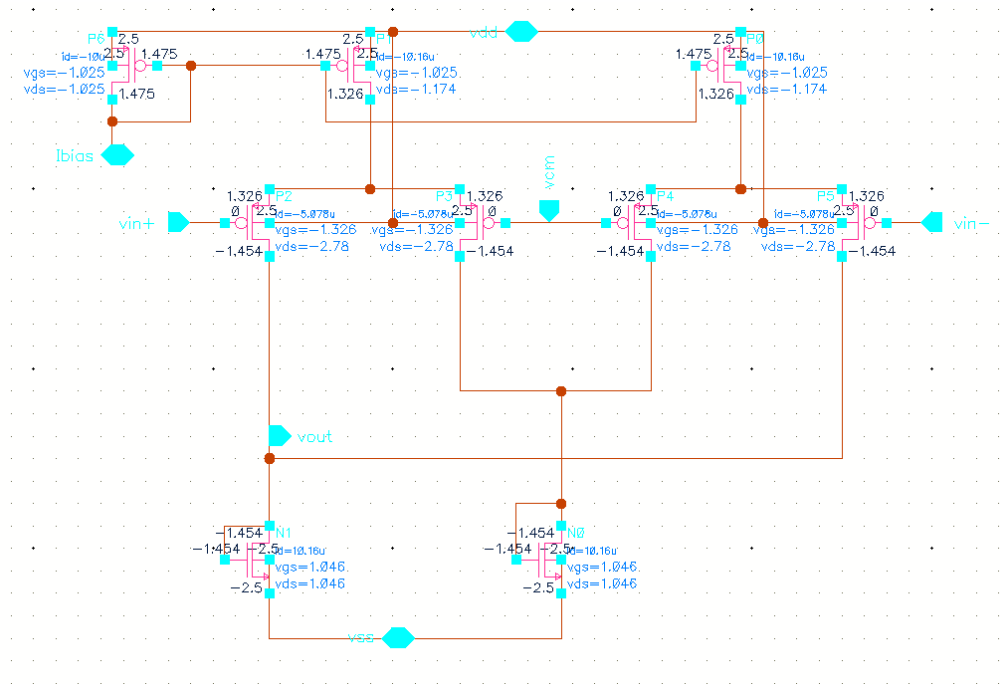
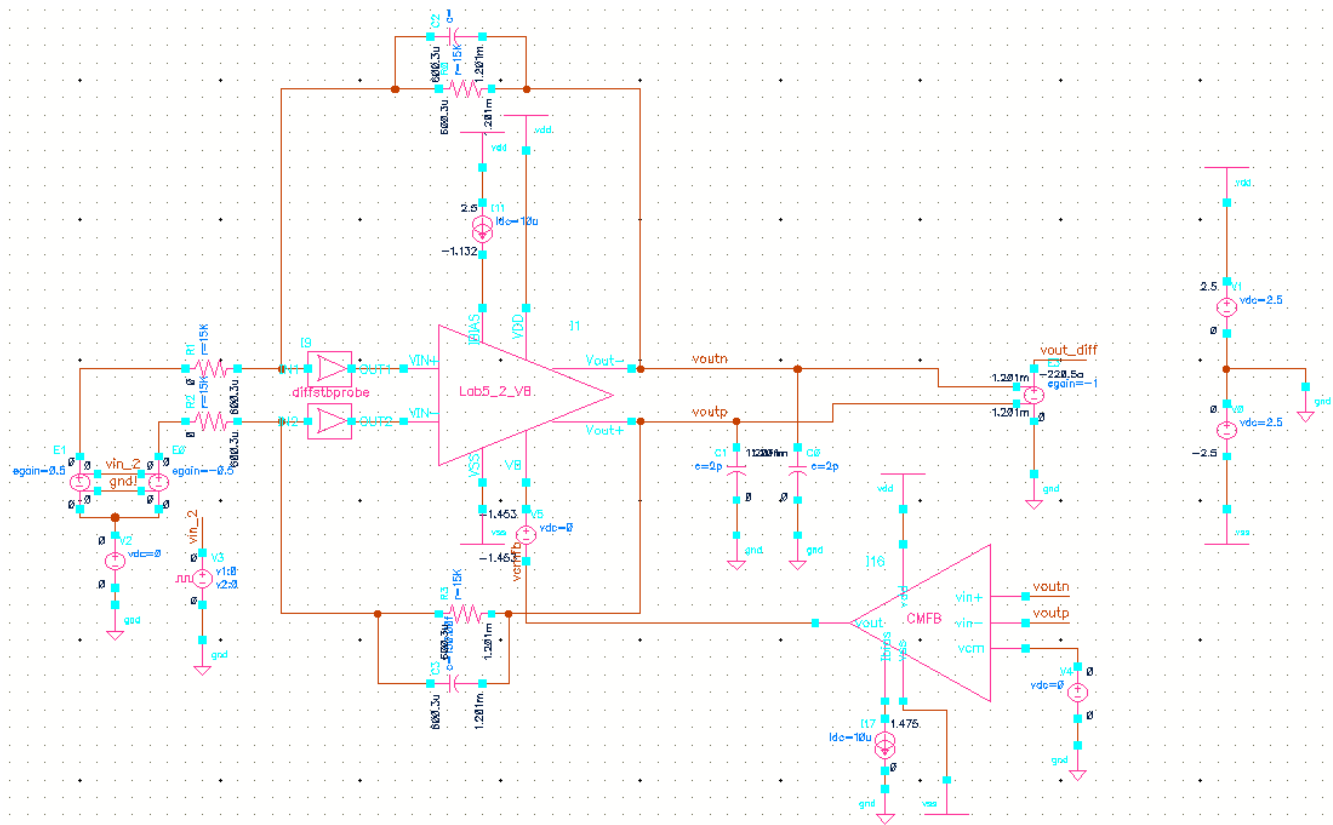

Fig 5
Fig 6
2. From last step you should notice the loading effect of resistive common-mode detector. To eliminate this loading effect, we could use the active common-mode detector, the circuit is shown in Fig 5. Design the amplifier and replace the previous detector and "vcvs" (testbench shown in Fig 6), then repeat task A.3. The output DC voltage should be close to the biasing voltage of "Lab5\_VB". (Note: the design strategy is shown in the CMFB lecture slides, page 30 and keep in mind that the output operating point should be in the middle of output swing range, not 0)
3. Use the designed active common-mode detector in test-bench as shown in Fig 6 and find the CMFB loop gain, UGF, and phase margin. Tune the CMFB amplifier until the PM is larger than 50 degree. (The UGF of the CMFB loop is typically around 5~10 times lower than the differential mode UGF.)
5. Use the test-bench shown in Fig 6 to simulate the output swing range of the amplifier. (The method is shown in video, please watch it if you don't know the detail). Compare the output swing range between two different common-mode detectors (Resistive and active). Explain why.